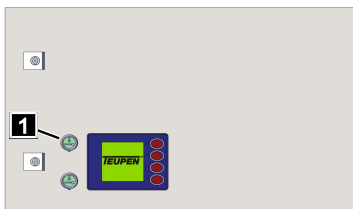

Fig. 121
4. Press and hold the [button] (Fig.121/1) until the work position has been reached.